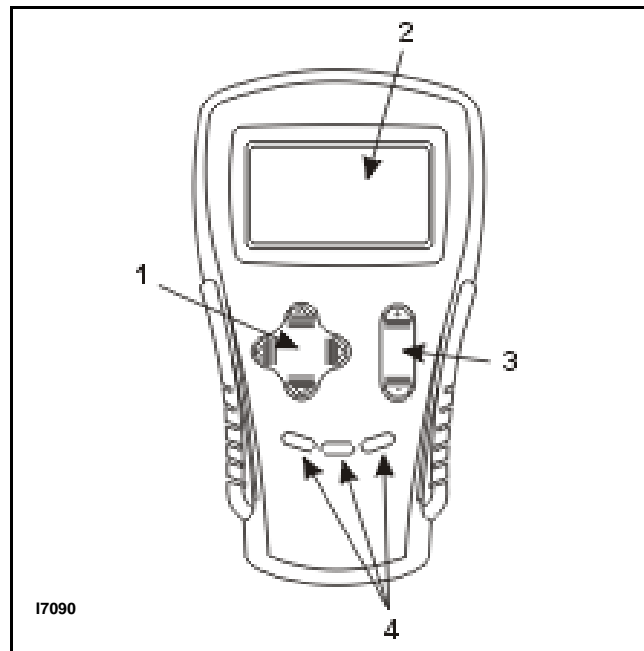

Figure 4-2. Hand Held Programmer
2. Turn the lift truck key switch to the ON position. The programmer should "power up" with an initial display (2, Figure 4-2), and the controller's Status LED should begin steadily blinking a single flash. If neither happens, check for continuity in the key switch circuit and controller ground.
3. Put the controller into the diagnostic mode by pressing the "Menu Navigation Key" (1, Figure 4-2). Using the Navigation key, select the Faults menu. Display the Faults menu by pressing the Right side of the Navigation key. Press the Right side of the Navigation key again to display the list of System Faults. The display should indicate "No Known Faults."
To see the present status of the unit, use the Menu Navigation Key (1, Figure 4-2) to select: